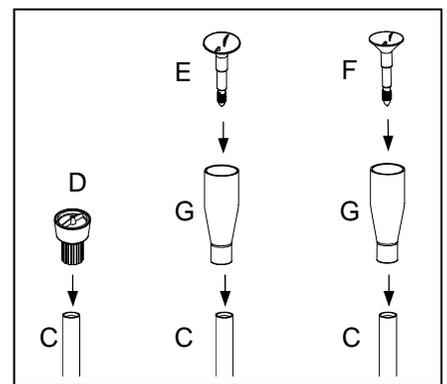

Fig. 2
2. Choose a fountain head for the desired water effect, and assemble your choice as shown in Fig. 2.